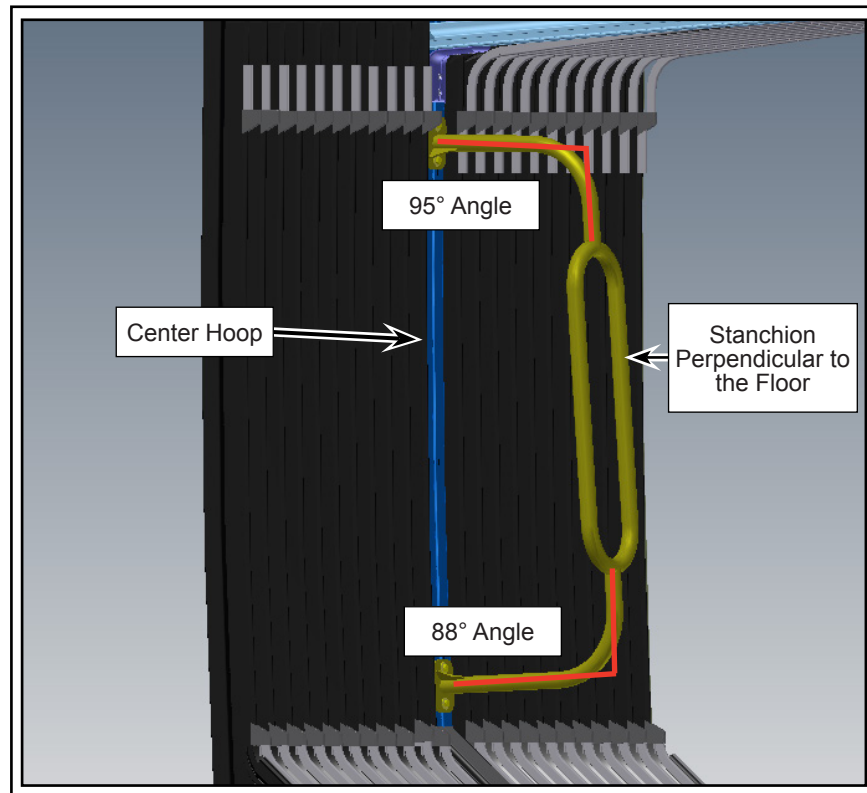

Figure 7 - Typical View of Stanchion Orientation
- 1.10. Ensure that the stanchion is vertical (perpendicular to the floor) (see Figure 7).